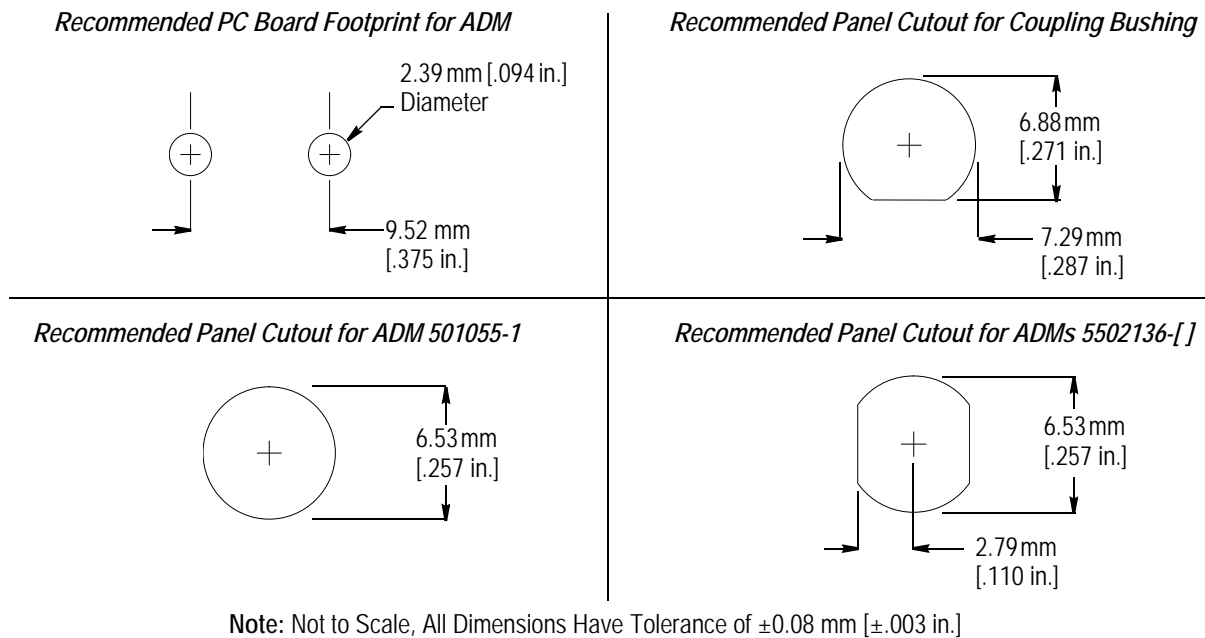

Figure 2
1. Cut the panel using the recommended cutout dimensions given in Figure 2.
1. Prepare the pc board using the recommended footprint dimensions or cut the panel using the recommended cutout dimensions given in Figure 2. Maximum panel thickness is 1.575 mm [.062 in.].
- Added tolerance to dimensions in Figure 2